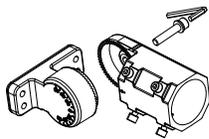

Figure 3-1
- Separate the Slip Fitter parts by unscrewing the Locking Bolt. (Figure 3-1)